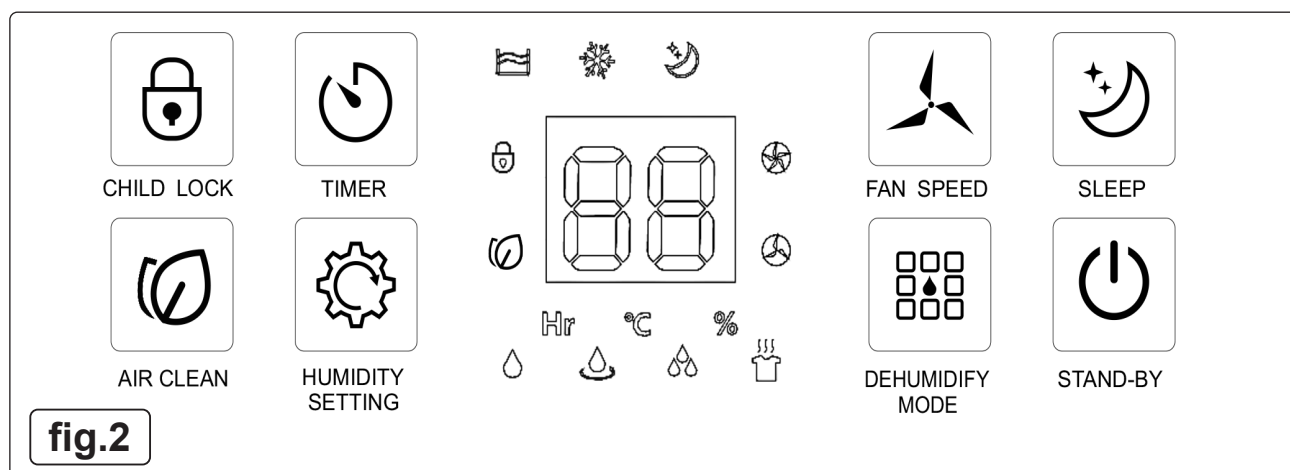

fig.2
- 4.3.5. Press the Stand-by button to turn the dehumidifier on (the power light is lit) (fig.2).